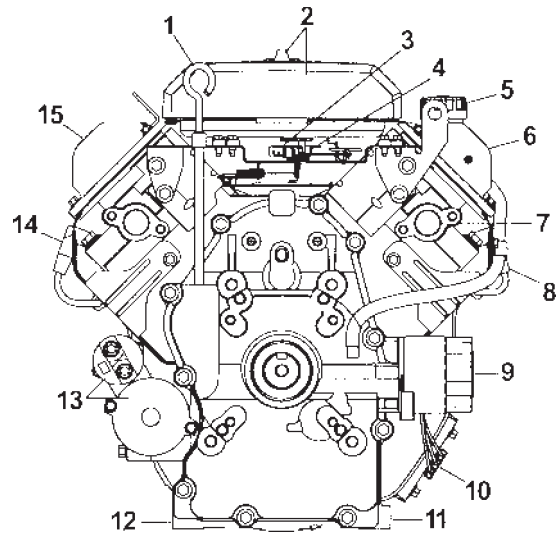

Figure 12. Engine Service Areas
2. Remove the oil filler cap (Figure 12, Item 5), and fill engine crankcase with recommended type oil as listed in Table 4. Fill to the upper limit of dipstick.